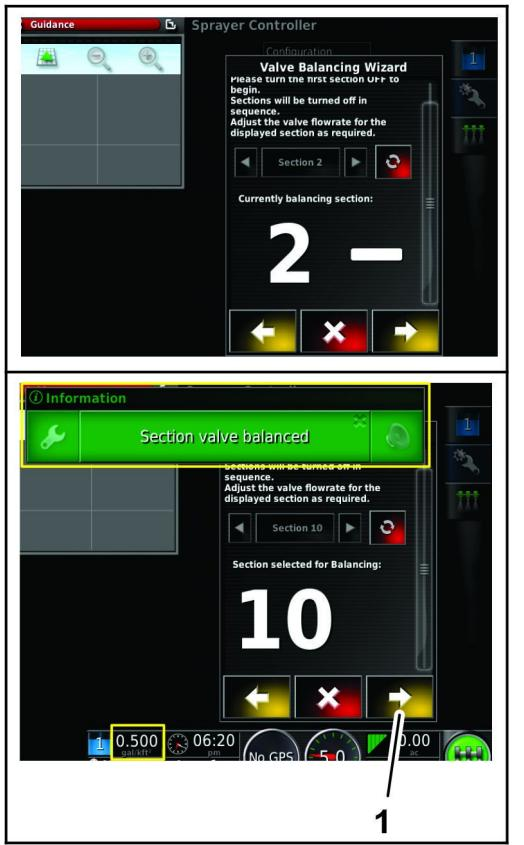

Figure 149
8. Repeat steps 6 and 7 for section valves 2 through 10 (Figure 149).
9. When all section valves are balanced, press the next icon (Figure 149).